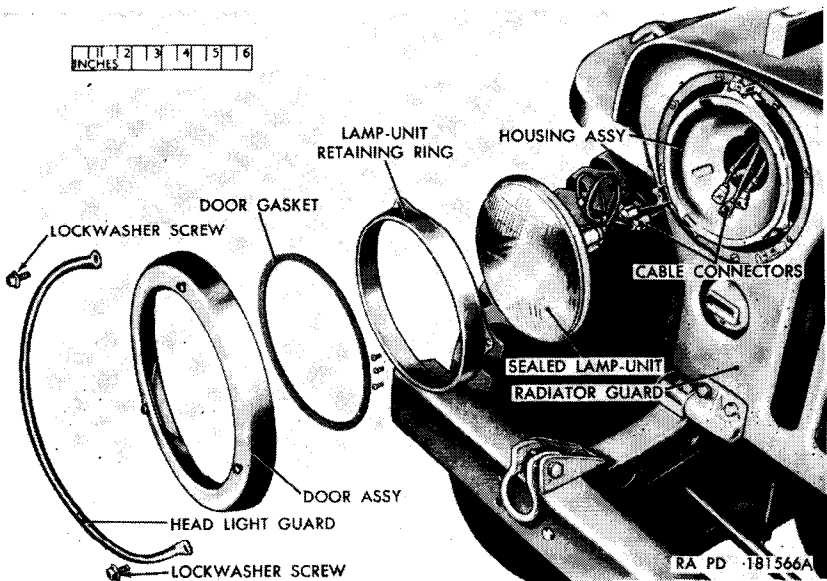

Figure 70. Headlight—partially exploded view.
- (3) *Headlights* (fig. 70). The headlights are adjustable sealed lamp-units located on the front of the vehicle and controlled by switches in the passenger compartment.
### a. *Headlight Sealed Lamp-Unit (fig. 70).*